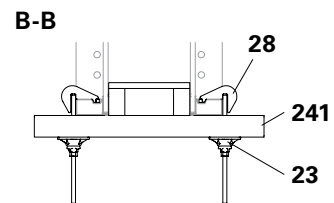

Fig. B10.06b
- Waler 85 (241) with Stopend Tie TS (28) and Wingnut Pivot Plate (23). (Fig. B10.06b)